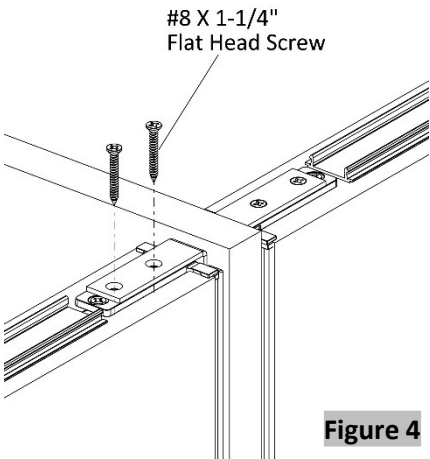

Figure 4
- 8. Follow Steps 5 and 6 to install the other standard panel, (Figures 4 and 5).